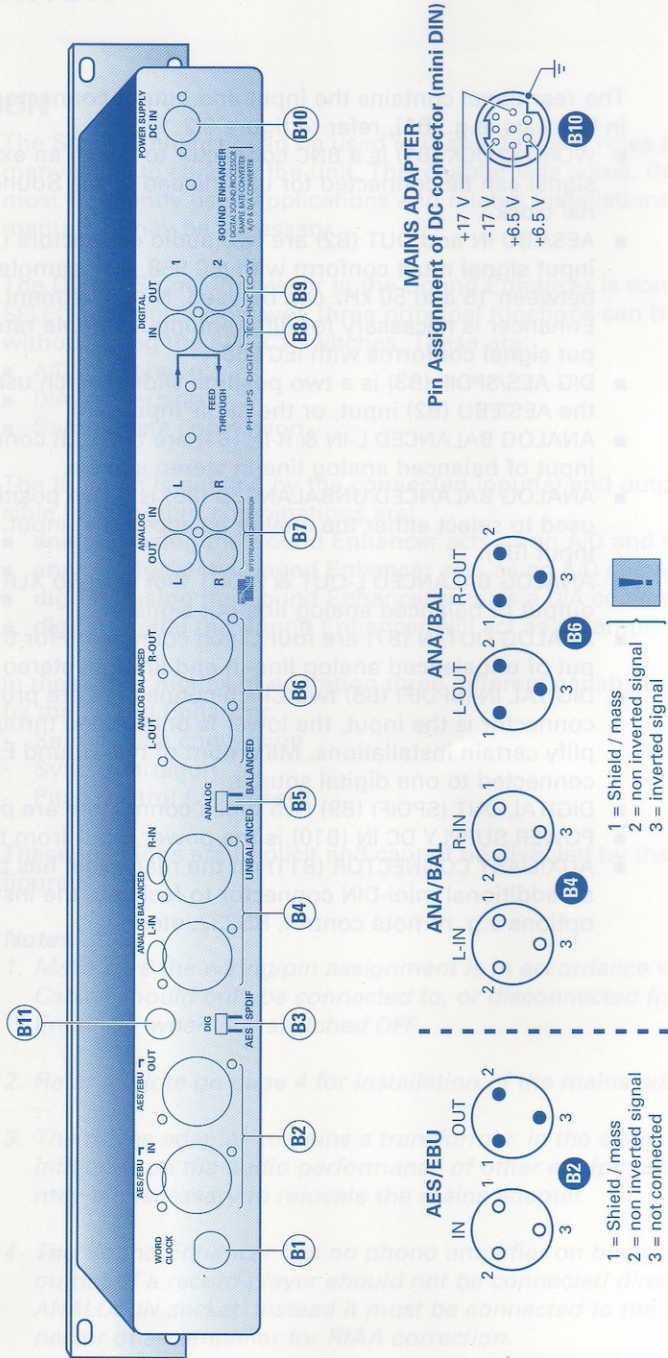

Figure 3.2: Sound Enhancer rear panel and pin assignments.
The rear panel contains the input and output connectors. For references in brackets, e.g. (B1), refer to figure 3.2.
1. *Make sure the wiring/pin assignment is in accordance with figure 3.2. Cables should only be connected to, or disconnected from, the Sound Enhancer when it is switched OFF.*